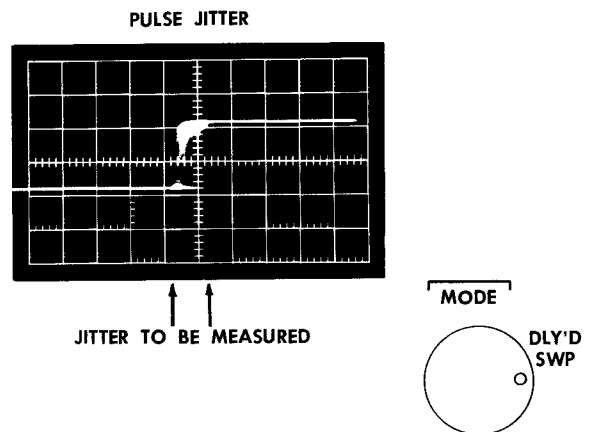

Fig. 3-5. Measurement of Pulse Jitter
4. The intensified pulse will then show jitter if present. The amount of jitter can be measured (in time) by multiplying the horizontal distance in divisions (of the jitter area; see Fig. 3-5) by the setting of the DELAYED SWEEP knob (setting of white dot on large black knob).